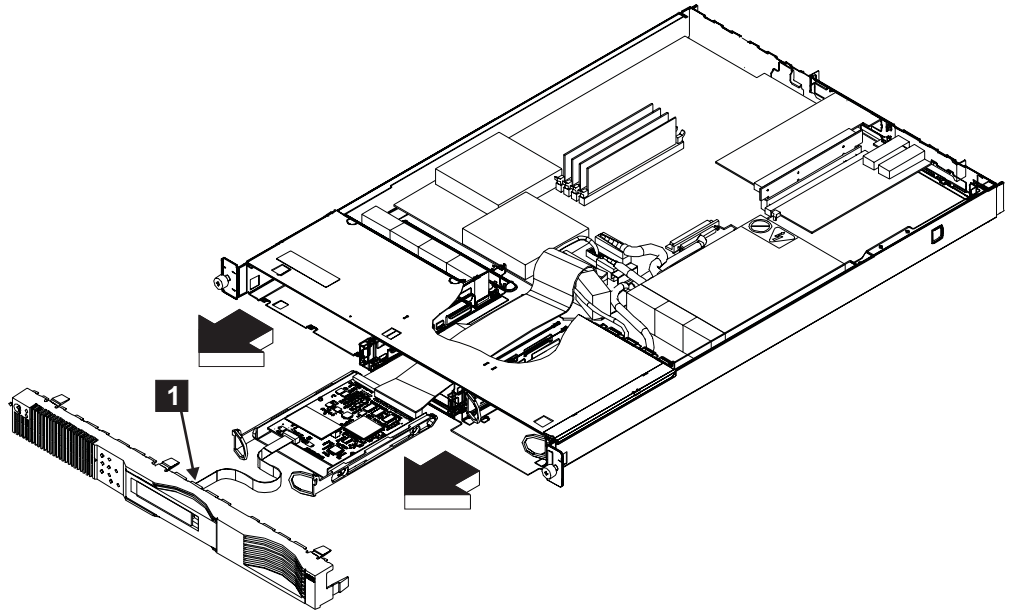

Figure 232. Removing the front panel of the SAN Volume Controller 2145-4F2
6. Disconnect the connector (1 in Figure 232).